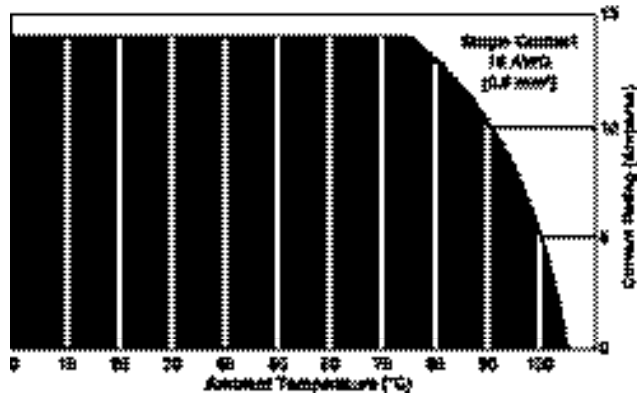

Figure 1
- From Figure 1, the base current rating is 14 ampere with 18 AWG [0.8 mm2] wire.